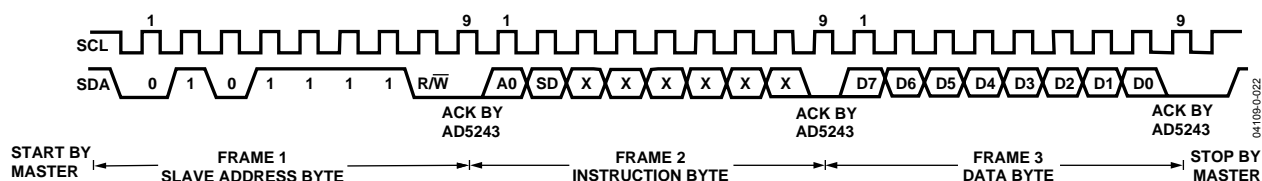
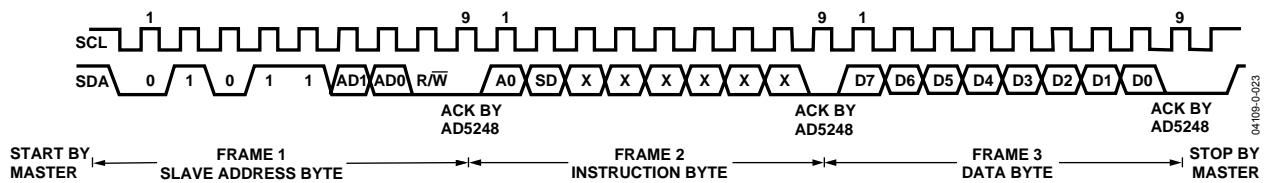
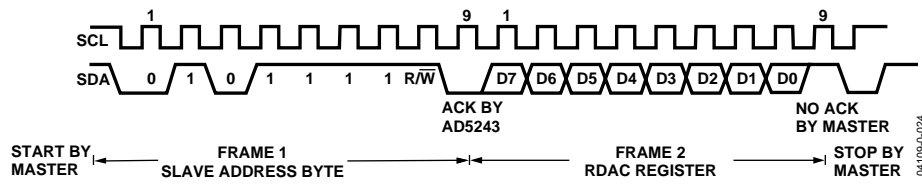
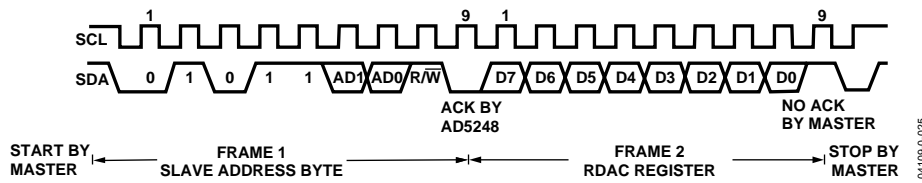

Figure 46. Writing to the RDAC Register—AD5243
Figure 47. Writing to the RDAC Register—AD5248
Figure 48. Reading Data from a Previously Selected RDAC Register in Write Mode—AD5243
Figure 49. Reading Data from a Previously Selected RDAC Register in Write Mode—AD5248
1. The master initiates data transfer by establishing a START condition, which is when a high-to-low transition on the SDA line occurs while SCL is high (see Figure 46). The following byte is the slave address byte, which consists of the slave address followed by an R/W bit (this bit determines whether data is read from or written to the slave device). The AD5243 has a fixed slave address byte, while the AD5248 has two configurable address bits AD0 and AD1 (see Table 9).
After acknowledging the instruction byte, the last byte in write mode is the data byte. Data is transmitted over the serial bus in sequences of nine clock pulses (eight data bits followed by an acknowledge bit). The transitions on the SDA line must occur during the low period of SCL and remain stable during the high period of SCL (see Figure 46 and Figure 47).
3. In the read mode, the data byte follows immediately after the acknowledgment of the slave address byte. Data is transmitted over the serial bus in sequences of nine clock pulses (a slight difference with the write mode, eight data bits are followed by an acknowledge bit). Similarly, the transitions on the SDA line must occur during the low period of SCL and remain stable during the high period of SCL (see Figure 48 and Figure 49).
Note that the channel of interest is the one that is previously selected in the write mode. In the case where users need to read the RDAC values of both channels, they need to program the first channel in the write mode and then change to the read mode to read the first channel value. After that, they need to change back to the write mode with the second channel selected and read the second channel value in the read mode again. It is not necessary for users to issue the Frame 3 data byte in the write mode for subsequent readback operation. Users should refer to Figure 48 and Figure 49 for the programming format.
4. After all data bits have been read or written, a STOP condition is established by the master. A STOP condition is defined as a low-to-high transition on the SDA line while SCL is high. In write mode, the master pulls the SDA line high during the tenth clock pulse to establish a STOP condition (see Figure 46 and Figure 47). In read mode, the master issues a no acknowledge for the ninth clock pulse (that is, the SDA line remains high). The master then brings the SDA line low before the tenth clock pulse, which goes high to establish a STOP condition (see Figure 48 and Figure 49).